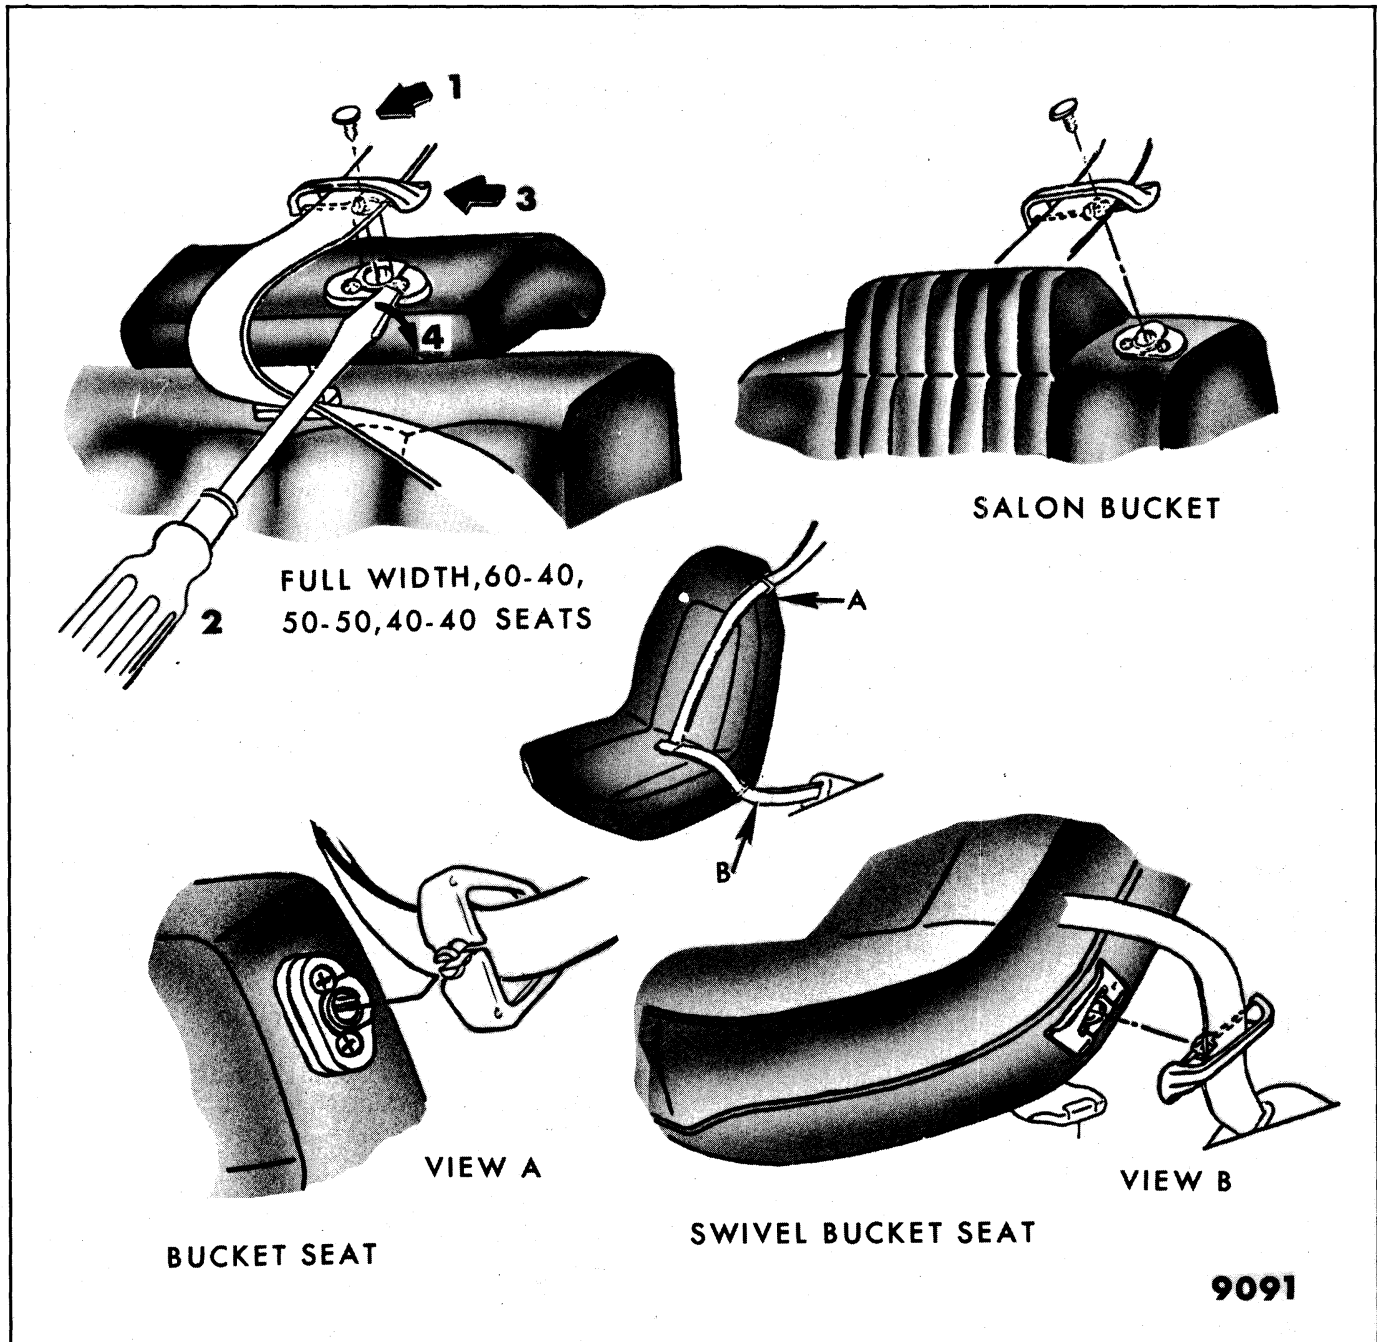

Fig. 9-7-Shoulder Belt Guide - Removal
1. Using Weatherstrip Removal Tool J-21104 or equivalent, carefully pry out plastic guide fastener from center of guide loop (see "1" in Fig. 9-7).
- a. From the front side of the guide escutcheon carefully insert a flat-bladed screwdriver between guide and escutcheon on one side of the split in the guide as shown at "2" in Figure 9-7.
- b. Push hard on side of guide where screwdriver is inserted as indicated at "3" in Figure 9-7.
- c. Carefully turn screwdriver as indicated at "4" in Figure 9-7 to snap guide from escutcheon.
3. To install guide, position guide retaining prongs in hole in escutcheon and push on base of guide until prongs snap into installed position. Reinstall plastic guide fastener (see "1" in Fig. 9-7). If fastener was damaged during removal, install new fastener.
1. Detach the shoulder strap guide from guide escutcheon on head restraint or seat back as previously described under "Shoulder Belt Guide - Removal and Installation" (see Fig. 9-7).